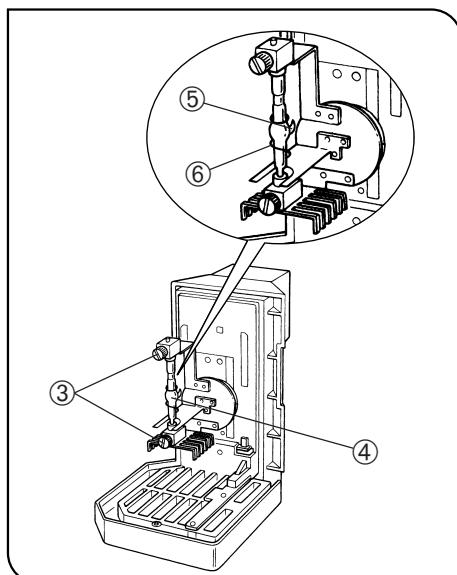

Fig. 5
3. Place the socket section upside down as shown in Fig. 5.
4. The lamp housing is equipped with the holder for transportation in the factory shipment condition or with an old burner when the burner is replaced. Remove the holder or old burner by loosening the two burner holding screws ③.
5. Attach the burner so that the - (negative) pole comes at the top and tighten the - (negative) pole side with one of the screws ④. Then fit the + (positive) pole of the burner into the + (positive) side socket hole and tighten the other screw ④.